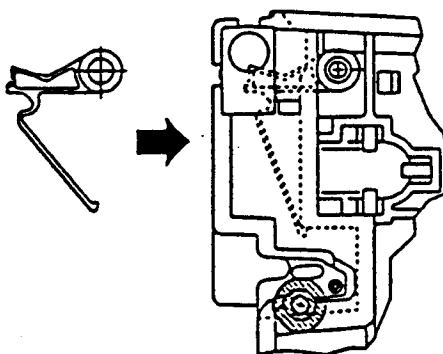

Figure A-8. Reinstalling the Display Assembly
5. If you removed the latch (no. 11, Section A.7.2.3) and its shaft (no. 12, Section A.7.2.3), insert the latch and the shaft again. Make sure that the tab of the latch is caught at the bottom side. Refer to Figure A-8.